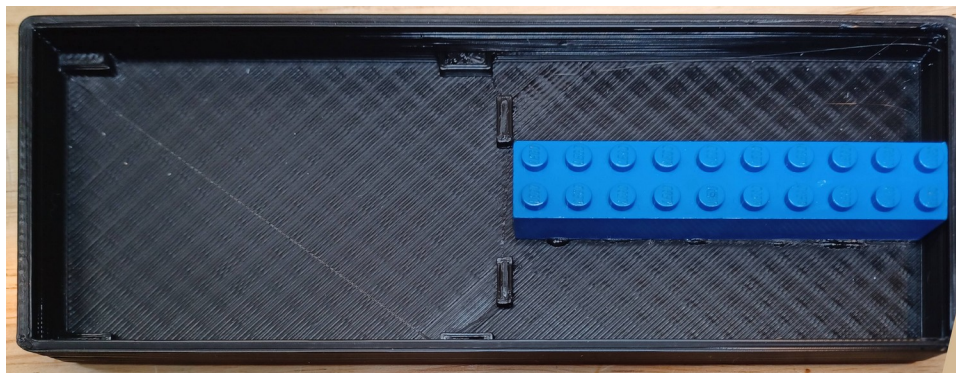

Figure 5: Glue the 2x8 black to the bottom of the case. The breadboard will be mounted on the left.
- *Figure 5*. Glue a 2x8 Lego block to the case bottom. It should be centered with one end just touching the inside wall of the case.